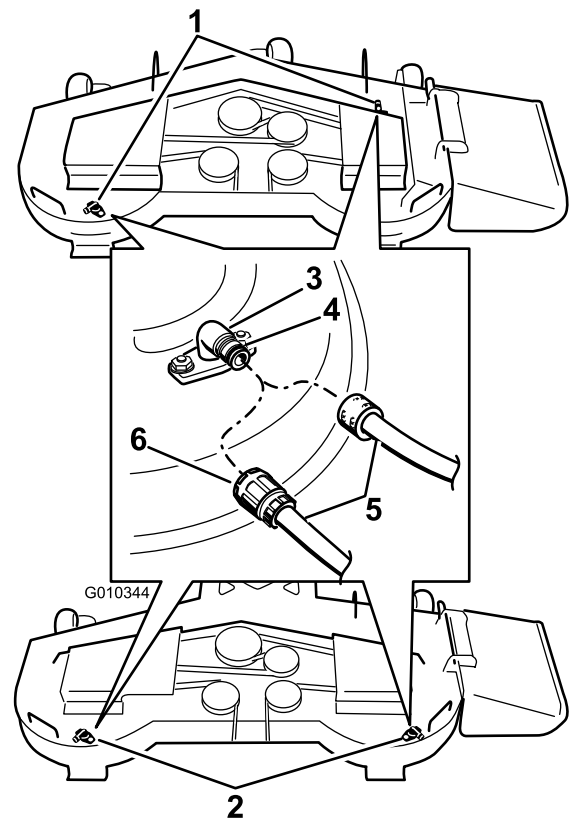

Figure 79
3. Attach the hose coupling to the end of the mower washout fitting, and turn the water on high (Figure 79).